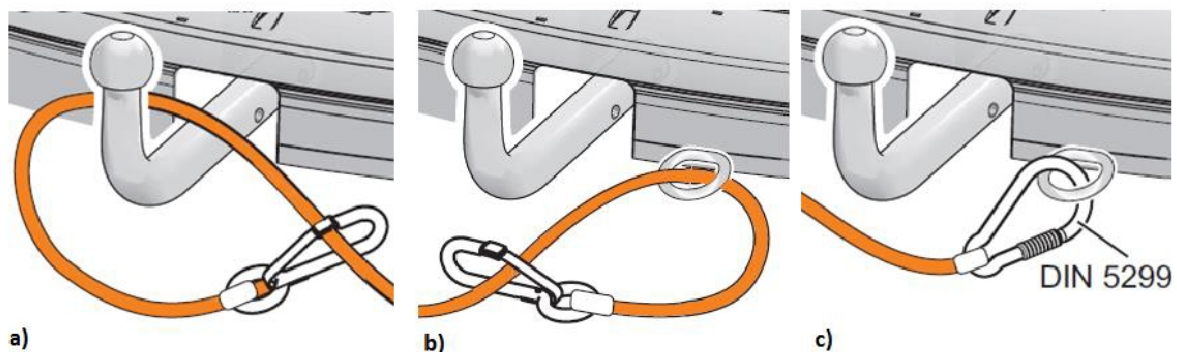

Fig. 7. Locking the safety line
- 9) Wrap the safety line around the hitch and lock the carabiner on the safety line (Fig. 7 a).
- 10) If the tow vehicle is equipped with an eye ring, push the safety line through the eye ring and lock the carabiner on the safety line (Fig. 7 b) (If the safety line is equipped with a 70 mm carabiner hook, according to the DIN 5299 standard it is allowed to lock the carabiner on the eye ring of the vehicle (Fig. 7 c)).